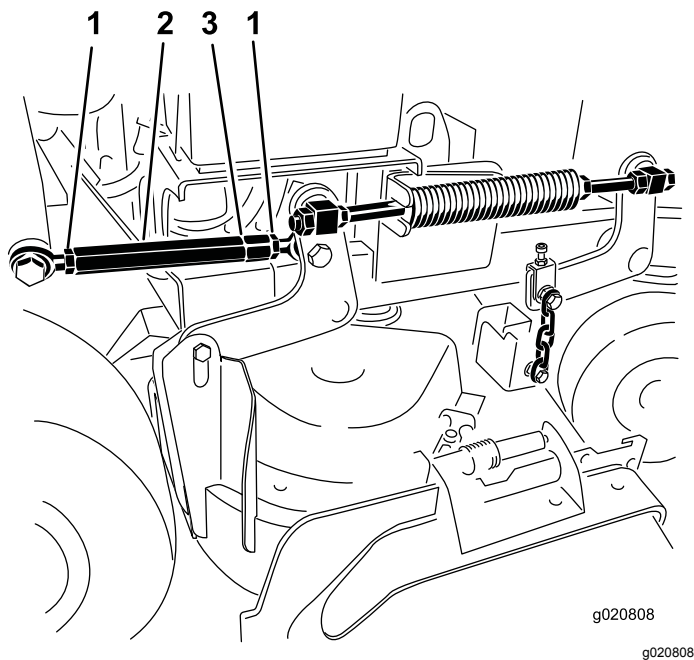

Figure 85
4. Loosen the jam nuts at both ends of the turnbuckle (Figure 85).
Note: The end of the turnbuckle with the groove has left threads (Figure 85).